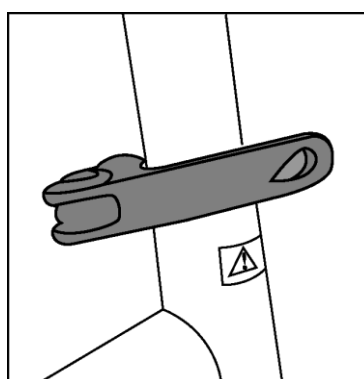

Figure 2: Handlebar or saddle clamp
- **Handlebar and seat clamp:** see figure2. These clamps allow you to set the saddle and handlebars to the correct height. Make sure these clamps are securely fastened.